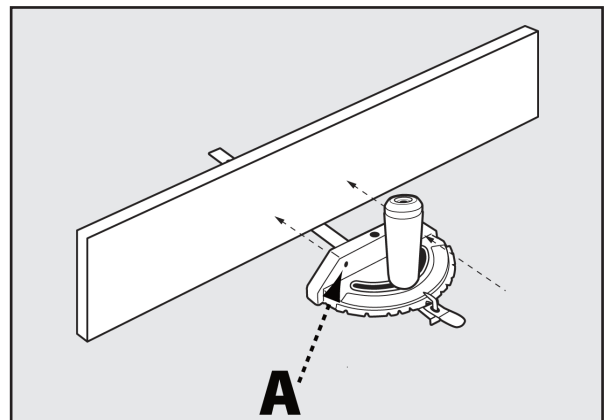

FIGURE 36
This auxiliary wood facing can be fastened to the front of the miter gauge by using two wood screws through the holes (A) provided in the miter gauge body and into the wood facing. See Figure 36. Make sure the screws are long enough to secure the facing, but do not extend all the way through the wood.
2. Loosen the two hex-head screws (A) shown in Figure 36.
4. Tighten the two hex-head screws (A) shown in Figure 36.